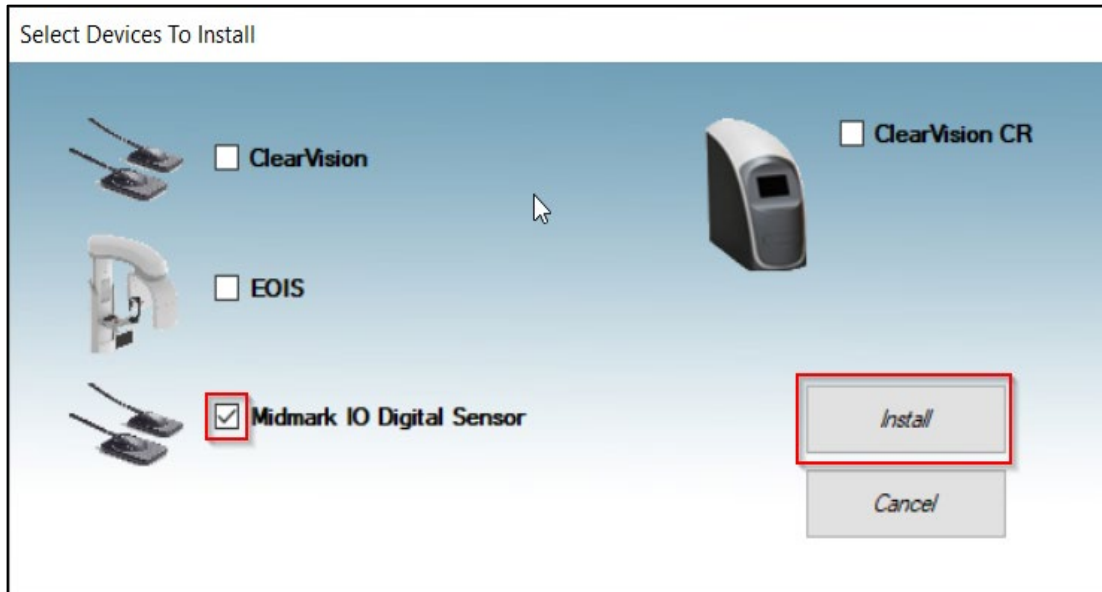

Figure 5. Selecting the device families to be installed.
- The “Select Devices To Install” pop-up will be displayed. Check the option for “Midmark IO Digital Sensor” (and, if applicable, any other device families that have to be supported by the imaging software). An “Install” button will then appear. Click that. See Figure 5 below.